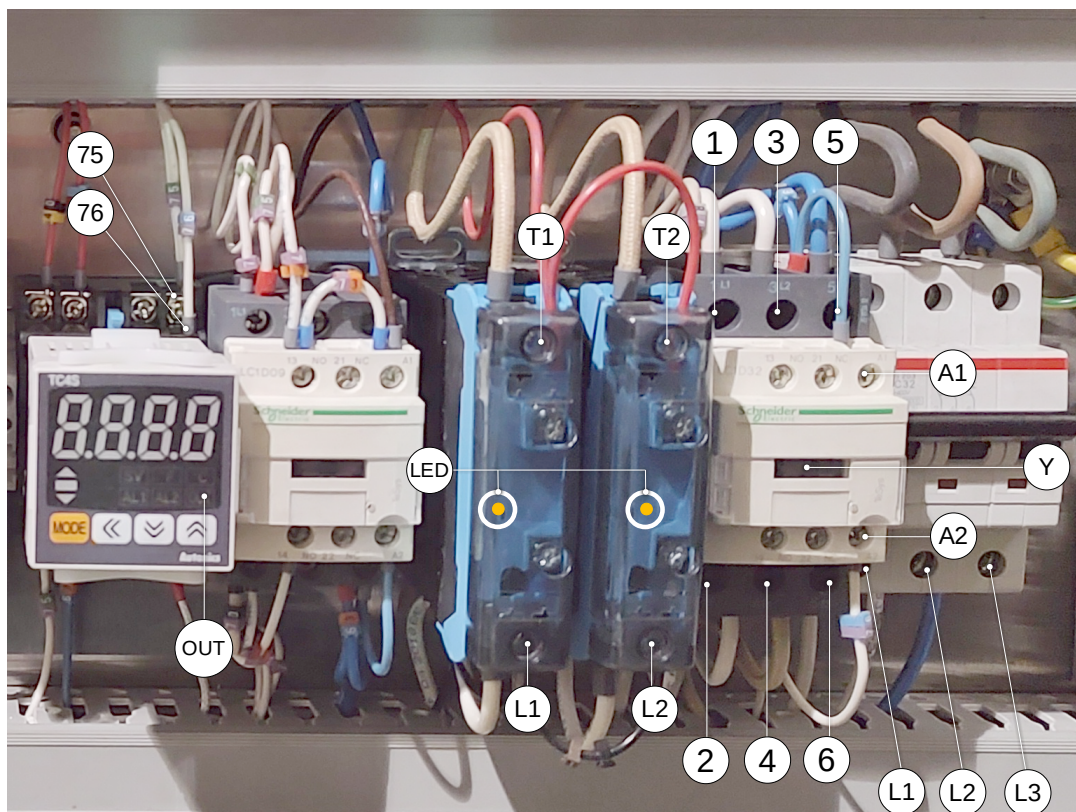

Figure 8: Elements of heating circuit
1. Unplug the machine and see Fig.8.
1. Turn the machine on. See Fig.8.